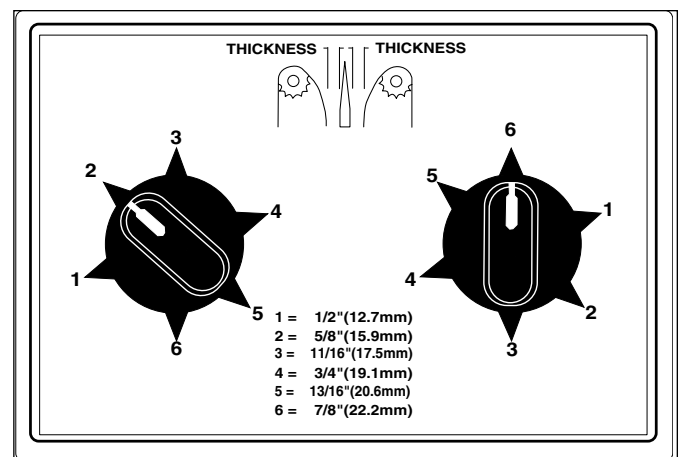

Figure 3. Bun Thickness Compression Knobs
1. Set the Bun Thickness Compression Knobs (Figure 3) to desired setting.
NOTE: Recommended settings are #2 for heel and #6 for crown (See Figure 3).
3. Turn both Bun Compression Control Knobs to "6" (Figure 3).